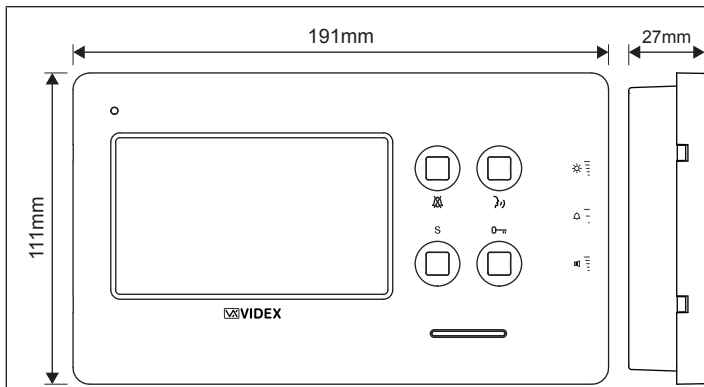
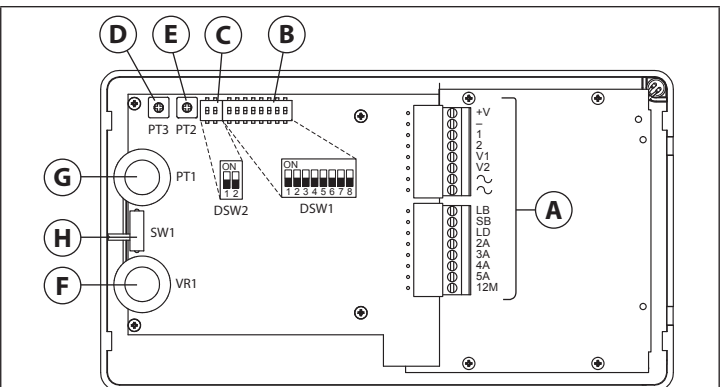

Fig. 1
Fig. 2
1. Mount back box **(S)** (**Fig. 2**) at 165 cm from ground level (**Fig. 1**);
2. If more than one flush box is needed, connect them by using the plastic spacers provided **(A)** (**Fig. 2**);
3. If necessary finish and clean properly the module support fixing holes and all other holes **(B)** (**Fig. 2**);
Fix the surface box on the wall at a distance of 165 cm between the top of the box and the ground (**Fig. 1**).